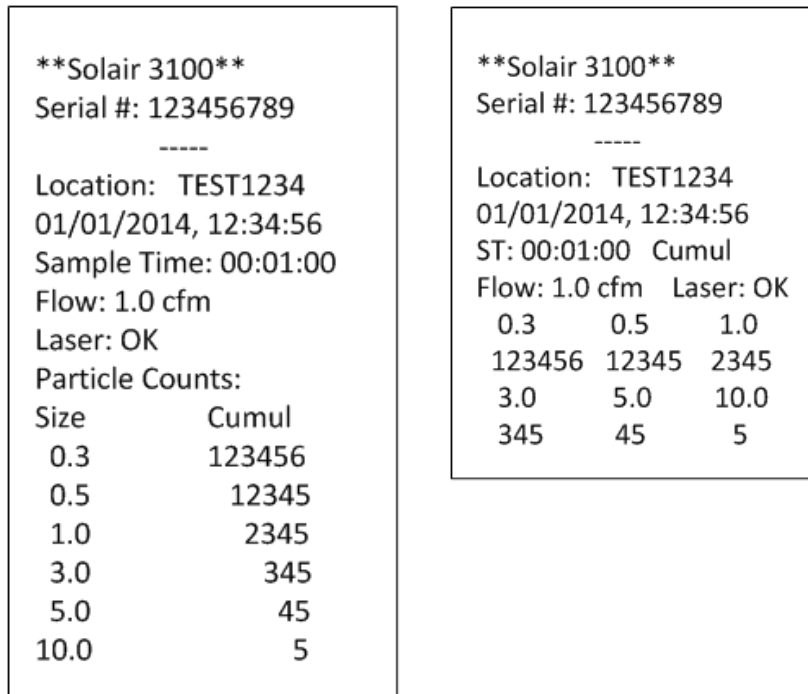

Figure 6-62 Portrait and Landscape Print Examples
- **PORTR** - Prints the report in portrait mode. See Figure 6-62.
- **LANDSC** - Prints the report in landscape mode See Figure 6-62.